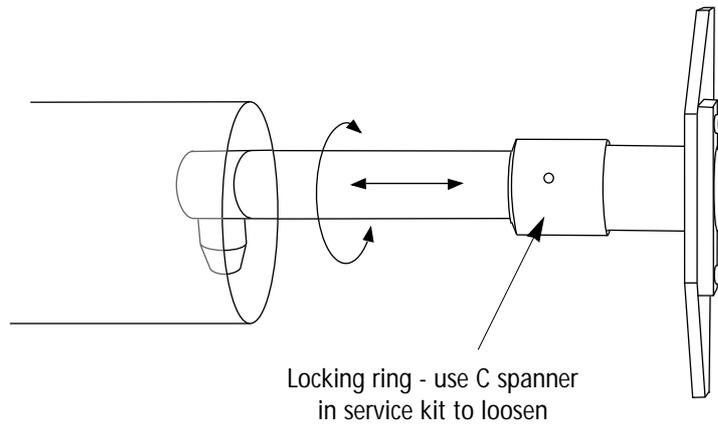

Fig. 1
- 9 • Check that the transmission light is centered as closely as possible on the sensor lens. If centering is required, loosen the light tube lock ring (fig. 1) enough so that the tube can be rotated or moved horizontally as necessary.